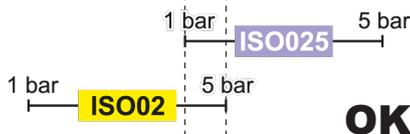

Fig. 133
• **Compatible nozzles:** the flowrate at 1 bar of the ISO025 nozzle is LOWER than the flowrate at 5 bars of the ISO02 nozzle (Fig. 133).